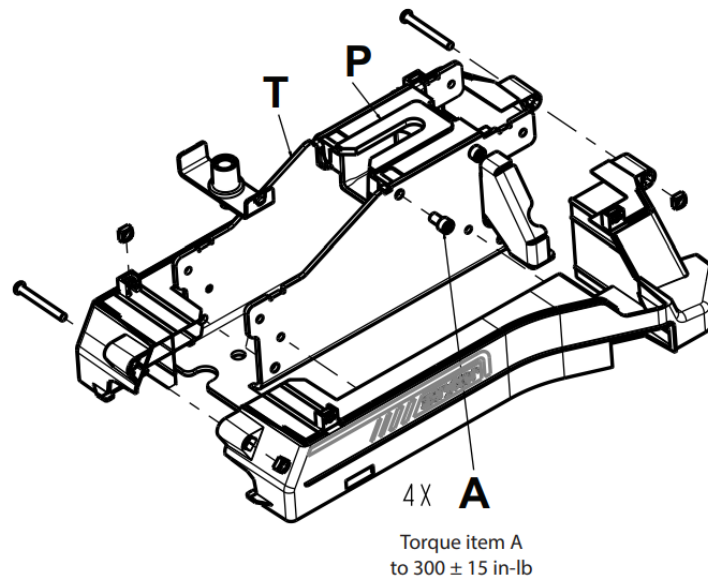

Figure 2 – Replacing the head end interface assembly
2. Using a 1/4" hex wrench, remove the four screws (A) that secure the head end interface assembly (P) to the head end weldment (T) (Figure 2). Save the screws.